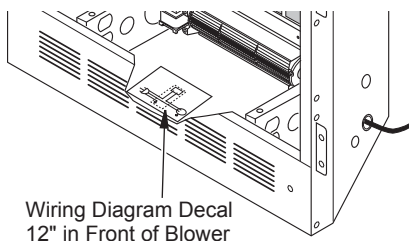

Figure 28 - Location of Wiring Diagram Decal (Model May Vary From Illustration)
- Peel off backing paper and stick supplied wiring diagram decal on firebox bottom approximately 12" in front of blower (see Figure 28).
11. Peel off backing paper and stick supplied wiring diagram decal on firebox bottom approximately 12" in front of blower (see Figure 28, page 20).